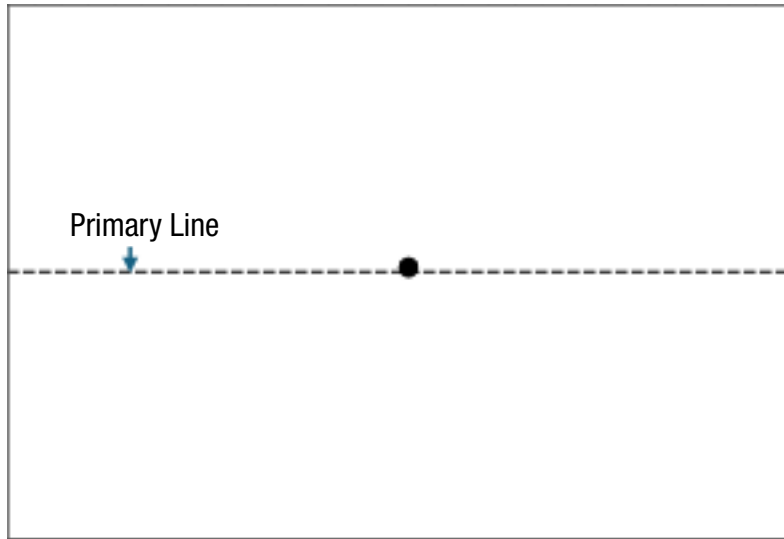

Figure 1
- Measure along this line to locate the exact center (*Figure 1*).